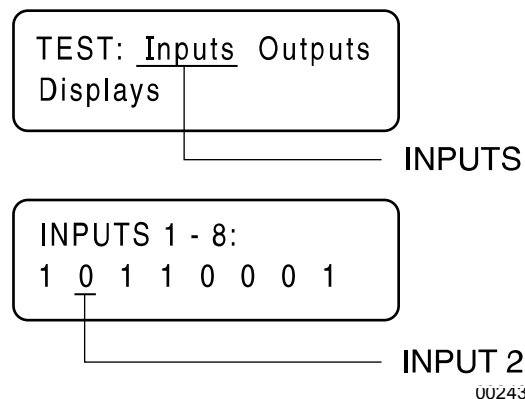

Figure 4-73. The Input Screens
1. See Figure 4-73. Navigate to the Digital inputs display screen of the controller being worked on.